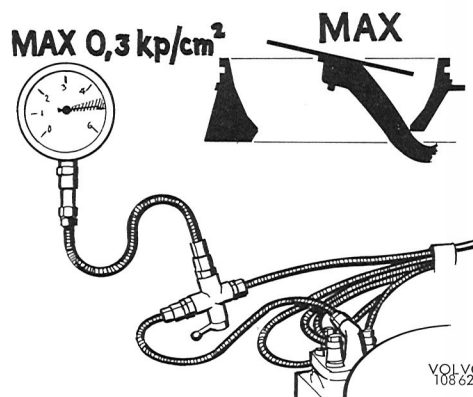

Fig. 1-41. Checking fuel supply
31. Check the fuel supply by lifting the air flow sensor plate to fully open position for 4 seconds, see Fig. 1-41. The line pressure may drop no more than  $.3 \text{ kp/cm}^2 = 4.3 \text{ psi}$ . Release the plate.